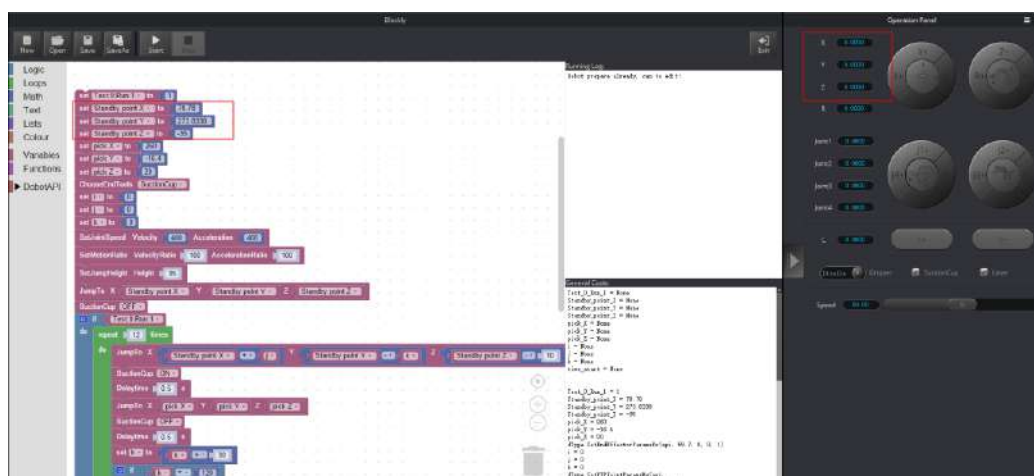

Figure 4.2 Modify the picking position
- The operation panel on the DobotStudio will record the values of X, Y, Z axes automatically, and write the values of the X, Y, Z axes in the picking demo as shown in Figure 4.2.